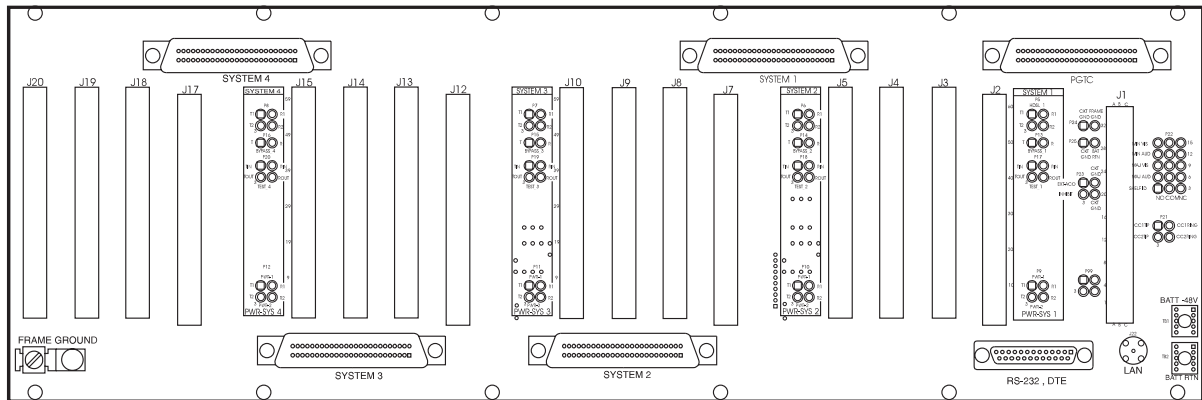

Figure 2. FCS-719, List 1 COT Shelf Backplane
- 4.1 The backplane of the FCS-719 COT Shelf List 1 contain the following connectors (Figure 2):